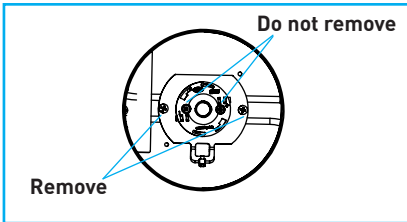

Fig.36
- C. Using standard Phillips-head screwdriver, remove 2 LED assembly retaining screws to detach from mounting surface *"Fig.36"*.
- F. Replace with new OEM LED engine assembly sourced through Lucifer Lighting. Attach LED wiring to the corresponding 2-pin lever-nut connectors, Red to Red (+), Black to Black or Blue (-). Using standard Phillips-head screwdriver, install LED assembly with 2 screws *"Fig.36"*.